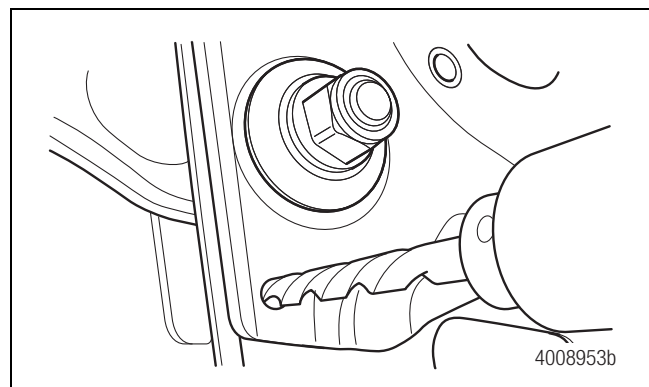

Figure 3
- Use a drill with a 1/2" drill bit to drill through the suspension side plate, using the outer repair plate as a template. Figure 3.